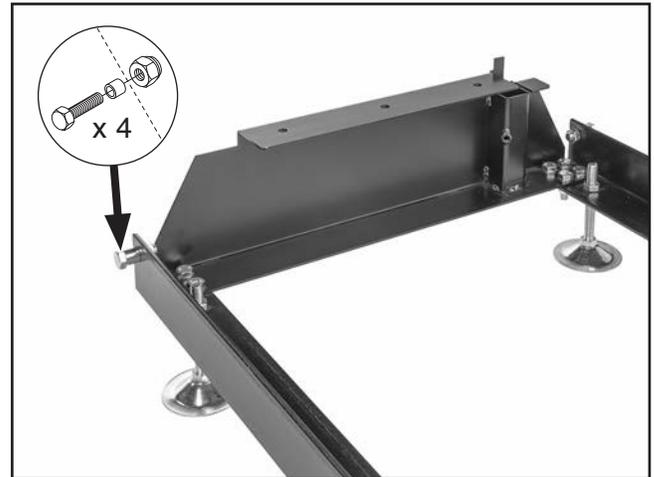

Figure 25. Rail spacer stops installed.
20. Install (1) M12-1.75 x 35 hex bolt, 12 x 17 x 15mm spacer, and M12-1.75 lock nut at each rail corner (see **Figure 25**).